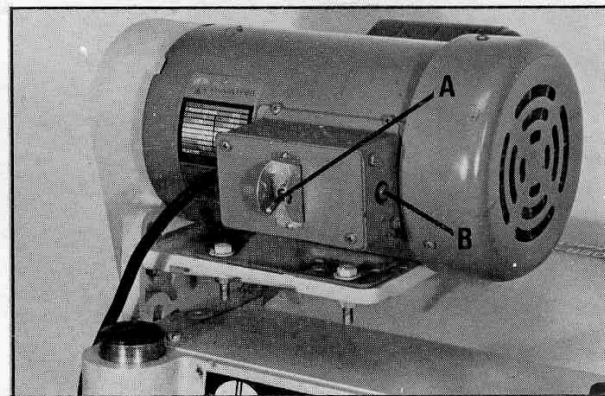

Fig. 39
Your planer is provided with overload protection which will shut off the motor if the planer is overloaded or if line voltage falls below safe levels. If the motor shuts off due to overloading or low voltage, proceed as follows for Single and Three Phase machines: On Single Phase machines, shut off switch (A) Fig. 39, let the motor cool for approximately five minutes and push the reset button (B), which will reset the overload device. The motor can then be turned on again in the usual manner.